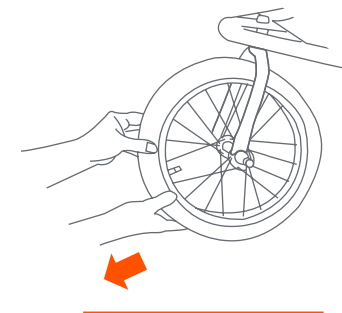

Fig. 20
- 20)** • Lift the front of the stroller off the ground, and pull down on the wheel to make sure it is secure (Fig. 20).